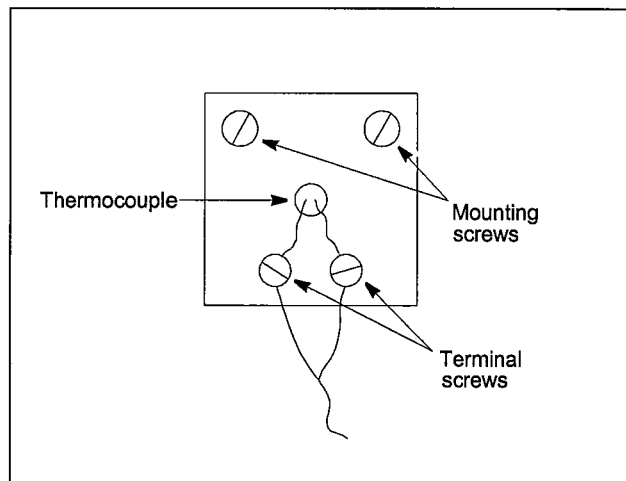

Figure 4. Thermocouple Replacement
Refer to Figure 4 as you perform the following procedure:
4. Slide out head and old thermocouple (refer to Figure 4).